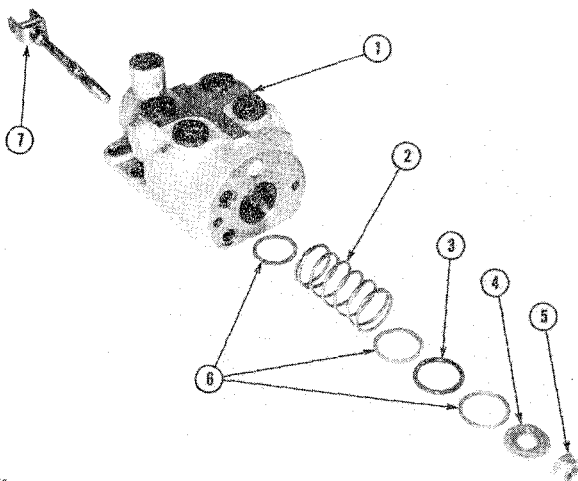

Figure 8-14
Remove nut (5, Fig. 8-14) from flexure rod (7). Remove washer (4), centering washers (6), "O" ring (3), spring (2) and rod from housing (1). Discard "O" ring.